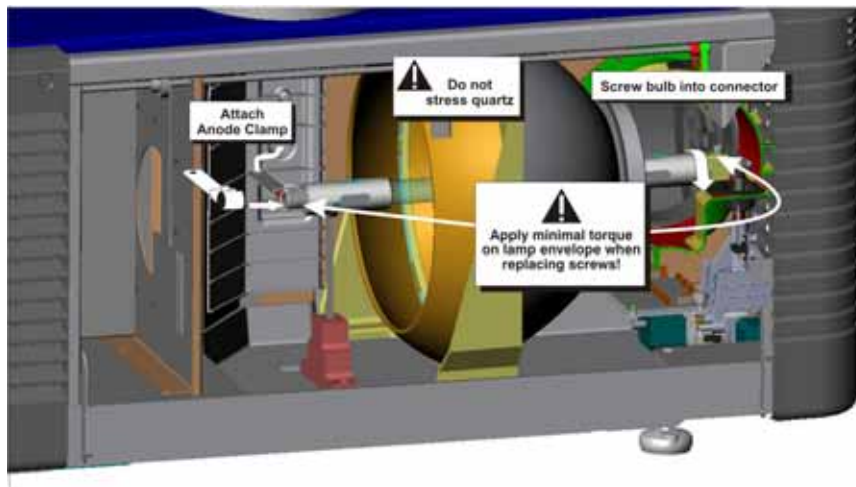

Figure 6-2 Installing the Lamp
- b. Insert the threaded cathode (-) end of the lamp into the negative lamp connector nut located in the rear of the lamp compartment. (**Figure 6-2**) Using both hands, hand-tighten this end into the threaded nut.
- d. Rest the anode (+) end of the lamp on the anode yoke and slip the positive lamp connector over the bulb end. (**Figure 6-2**) Using the 5mm Allen key, squeeze together with the anode clamp making sure not to place any torque on the lamp quartz tube. **Important!** For CDXL-30SD lamps, make sure the “flat” part of the anode end of the lamp (if applicable) is facing in the 10 or 2 o’clock position once the lamp finger is installed in the 14mm threads and the clamp screw is tightened. For all other lamp types, keep the “flat” part of the anode end of the lamp facing up. **WARNING! Explosion hazard - Do not apply torque to the anode end of the lamp.**